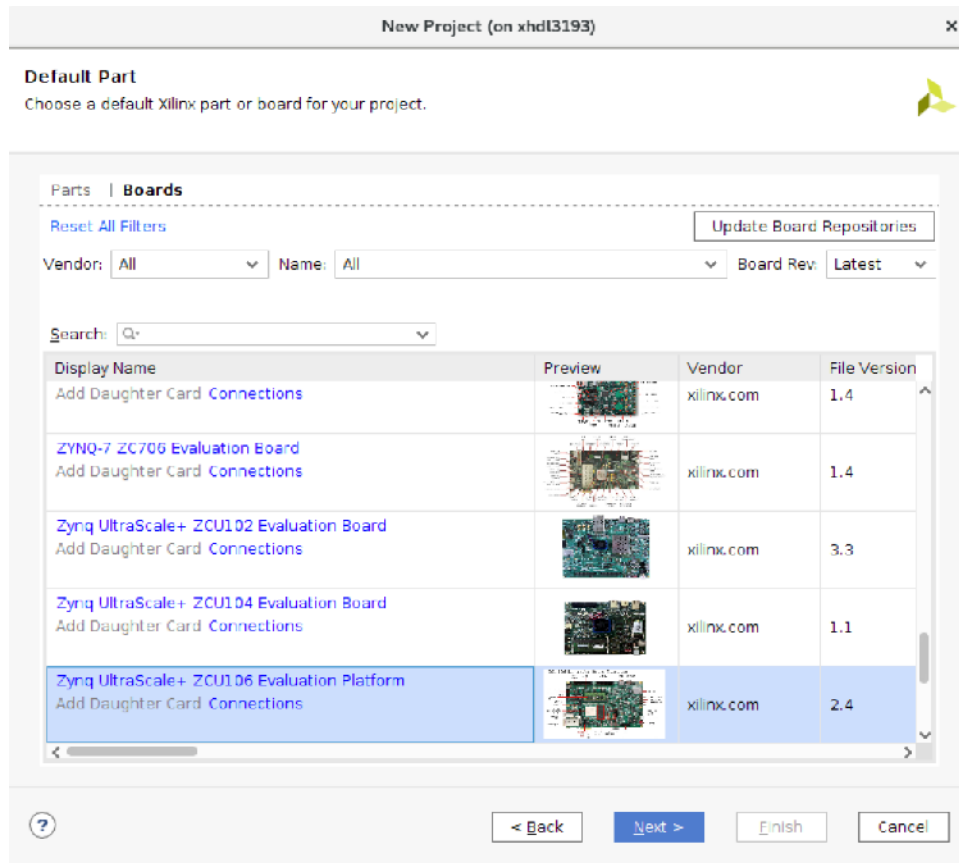

Figure 5-13: Select the ZCU106 Board
3. Select the ZCU106 Board as shown in Figure 5-13.